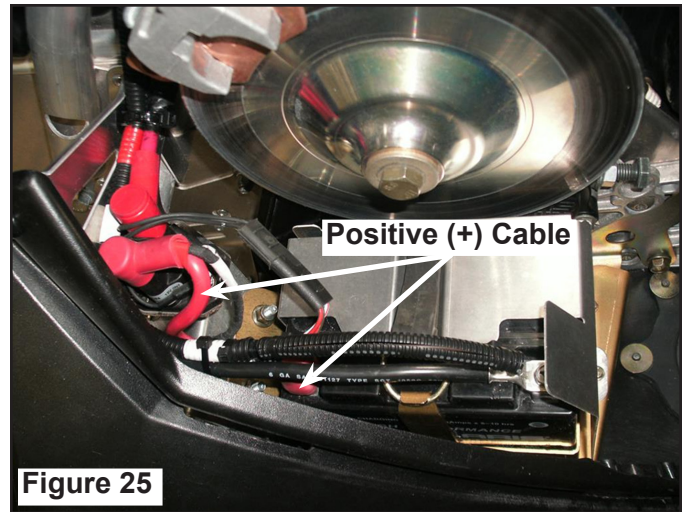

Figure 25
29. Connect the red cable to positive (+) terminal of the battery. Position the cable, so that it does not contact the other wiring or switches as shown in Figure 25. Install the protective cap. Connect the black cable/wiring to negative (-) terminal of the battery.